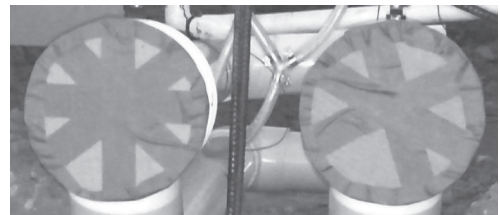

Figure 10
2. Tape the jet housing(s) to keep concrete out of threaded inserts and out of the inside of the housing(s). See Figure 10.